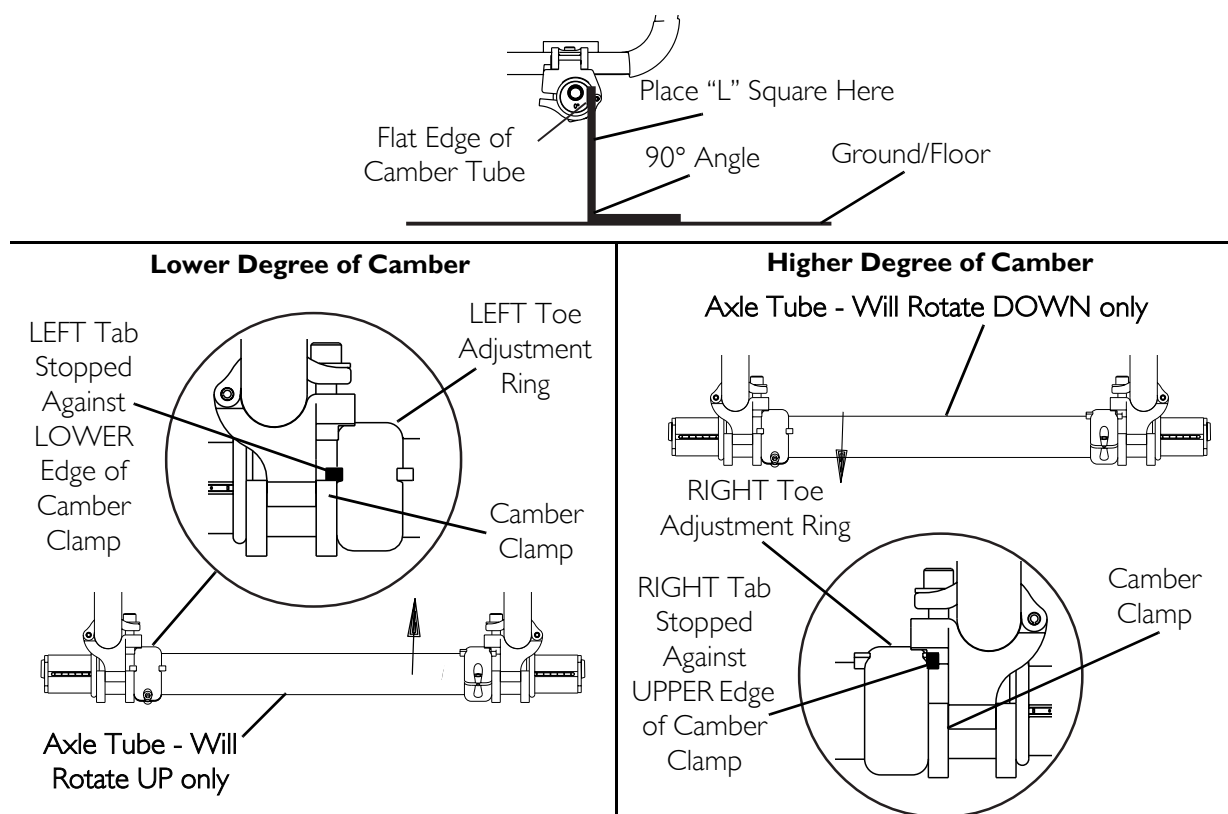

FIGURE 6.18 Adjusting the Axle Tube - A4 Camber System
NOTE: For this procedure, refer to FIGURE 6.18.
2. Loosen the set screw that secures each toe adjustment ring to the axle tube (FIGURE 6.18).
3. Using an "L" square, rotate the axle tube until the flat edge of the camber insert is at a 90° angle with the ground/floor as shown in FIGURE 6.18.
8. Perform one (1) of the following: